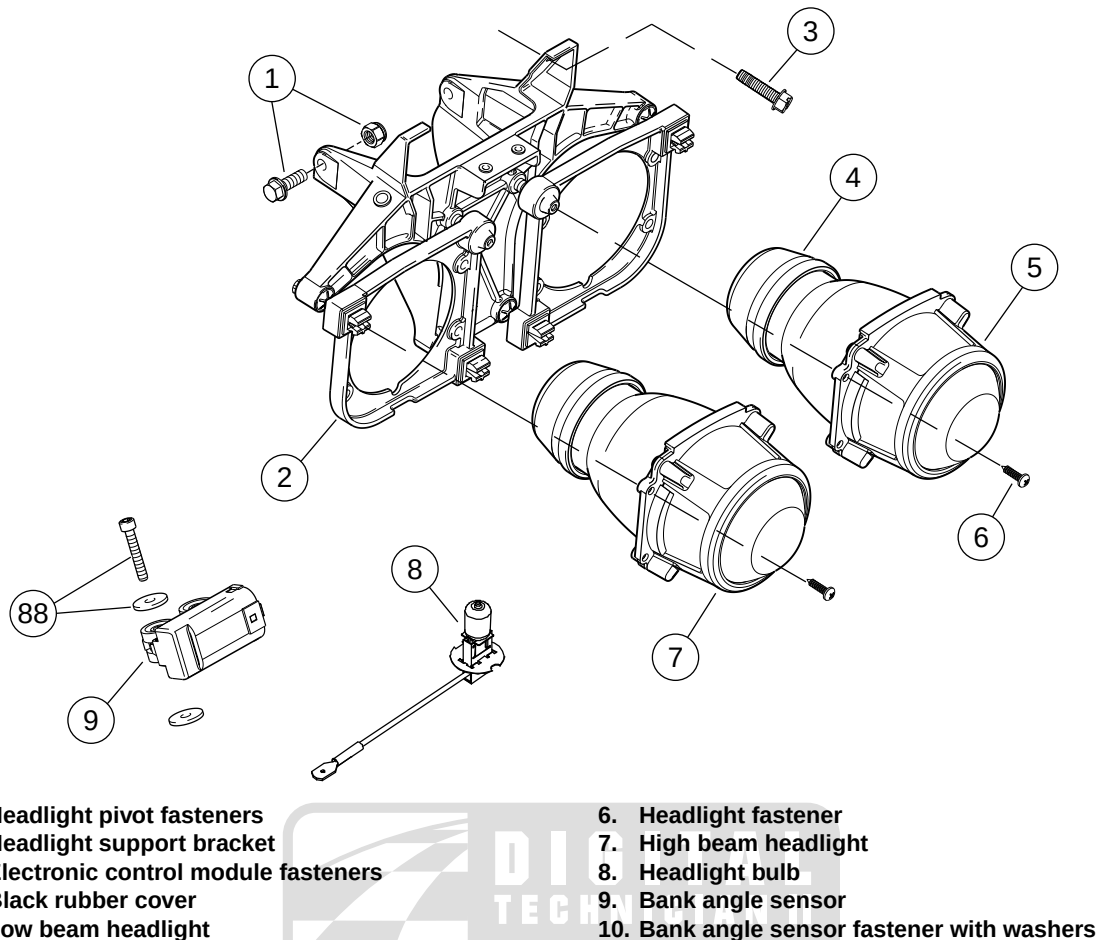

Figure 2-140. Headlight Support Bracket Assembly: Firebolt
- a. Loosen headlamp pivot fasteners (1).
- b. Rotate headlamp bracket (2) down.
6. See Figure 2-140. Disconnect headlamp connection.
2. Remove flasher (1).
3. See Figure 2-140. Remove black rubber cover (4) from rear of headlights.
5. Disconnect headlight bulb (8) connector (white) from wire harness.
6. Remove headlights (5, 7) from headlight support bracket (2) by removing headlight fasteners (6).
1. See Figure 2-140. Align headlights (5, 7) into headlight support bracket (2). Tighten headlight fasteners (6) to 20-25 **in-lbs** (2.3-2.8 Nm).
2. Connect headlight bulb (8) connector (white) into wire harness.
4. Install black rubber cover (4).
2. See Figure 2-140. Install headlight pivot fasteners (1) but do not tighten.
6. See Figure 2-140. Rotate headlight support bracket up (2) and tighten pivot fasteners (1) to 72-96 **in-lbs** (8-11 Nm).
8. See Figure 2-140. Align electronic control module and headlight support bracket with fairing support bracket.
10. Connect flasher (1) and bank angle sensor (2).